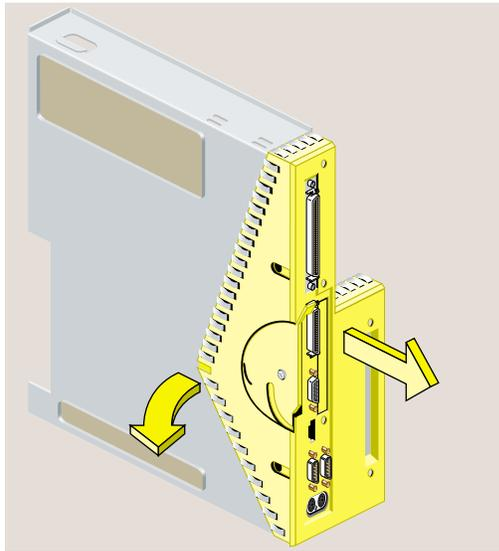

Figure 2 Removing the Face Plate From the System Module
3. Remove the faceplate by grasping it where the plastic comes to a “V” and pulling it outward (Figure 2).